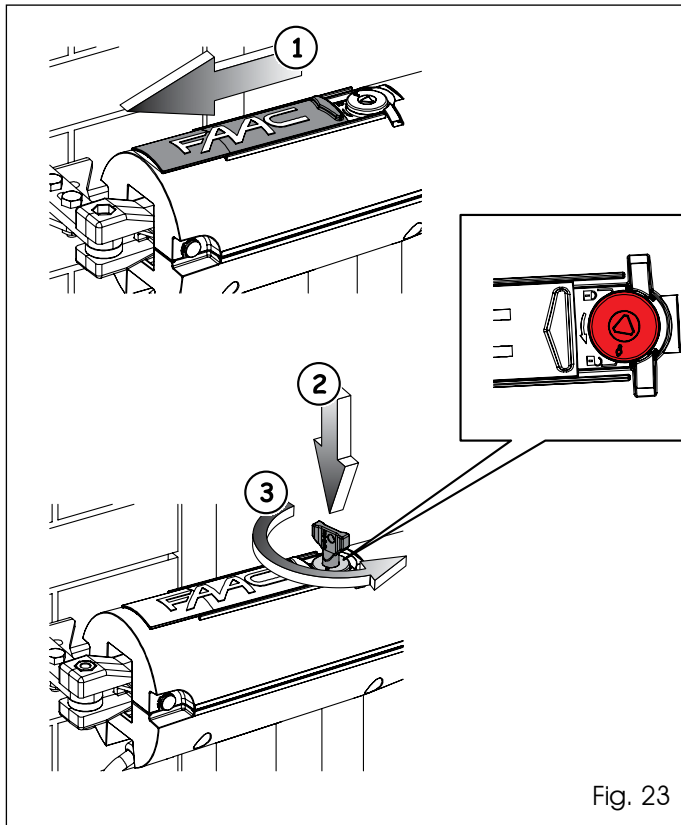

Fig. 23
2. Slide off the protective cap, Fig. 23 Ref. 1.
3. Insert the supplied release key, Fig. 23 Ref. 2, and turn it counter-clockwise until it stops, Fig. 23 Ref. 3. The release position is indicated by an open padlock.